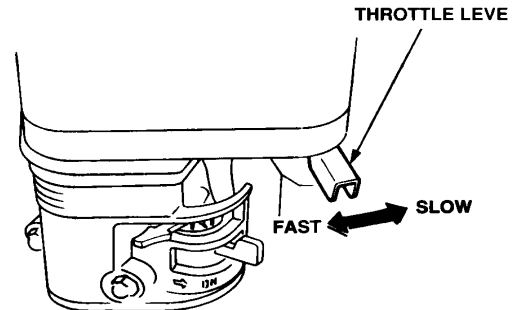

Figure 19. Throttle Lever
- Rotate the **throttle lever** (Figure 19) halfway between **fast** and **slow** for starting. The engine governor speed is factory set to ensure optimum operating speeds.